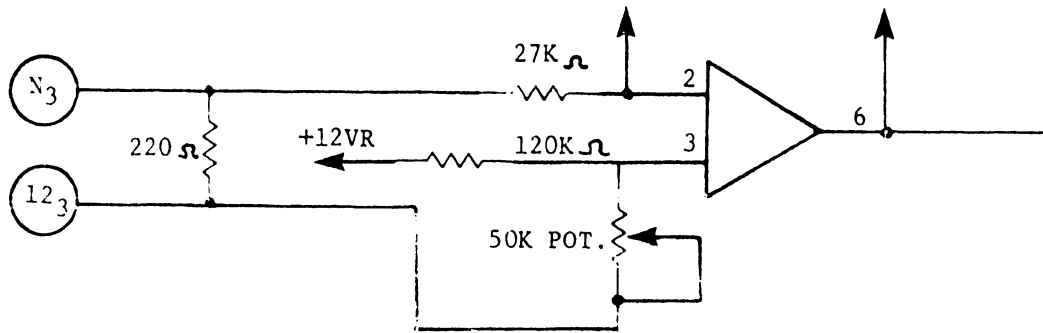

FIGURE 2
1. For use with both photocell types, the Timing Fence circuit is being changed from the configuration shown in Figure 1 to that shown in Figure 2.